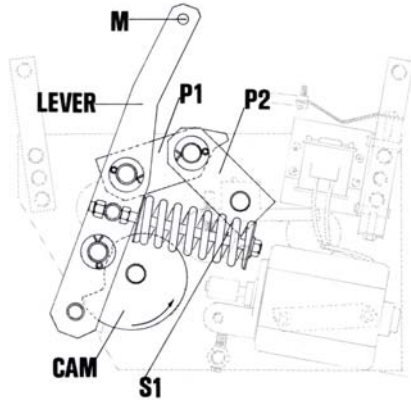
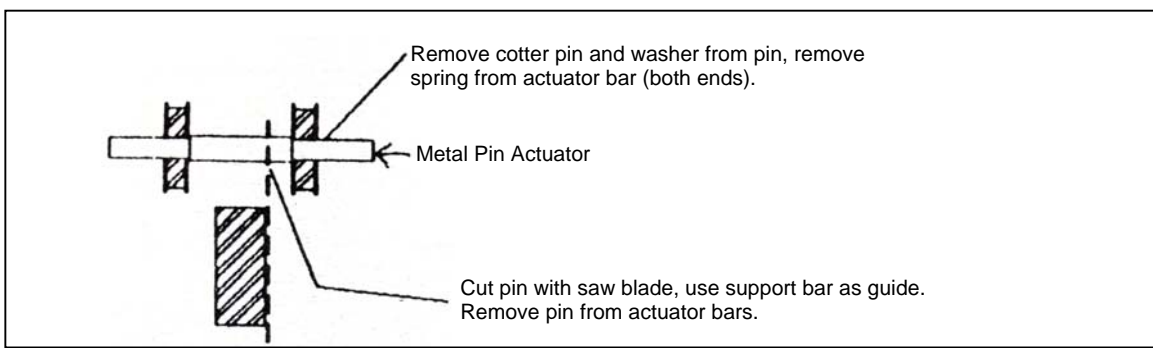
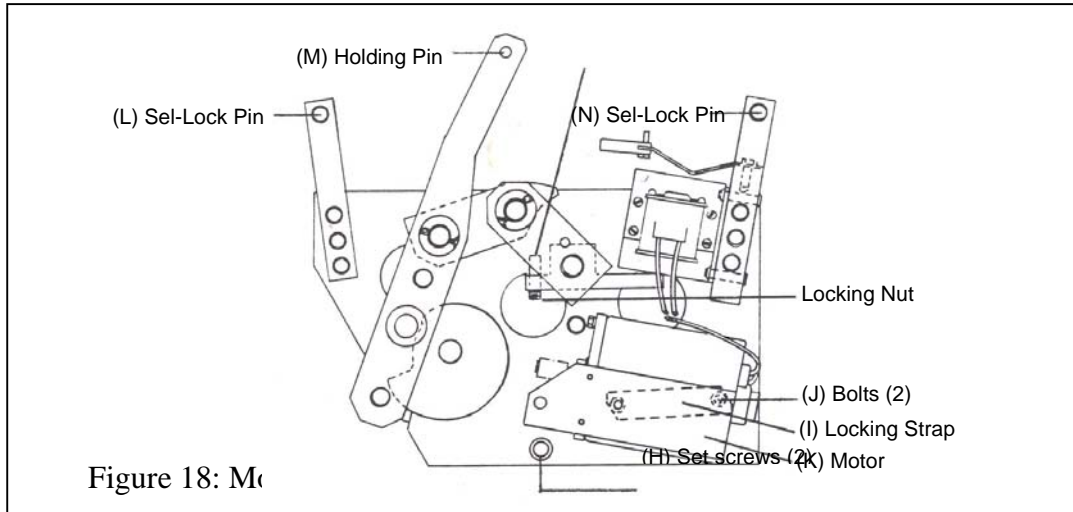

Figure 12: Sequence of Motor Operation
Figure 16: Removal of Old Metal Pin Actuator
Figure 18: Motor Operator Assembly
If a malfunction of the motor operator linkage occurs, replace the entire operator assembly (Figure 18). Two spring compressor devices are needed to hold and relieve pressure from the two main spring assemblies (S1 in Figure 12). Figure 16 shows where motor operator assembly is attached at points (L), (M) and (N).